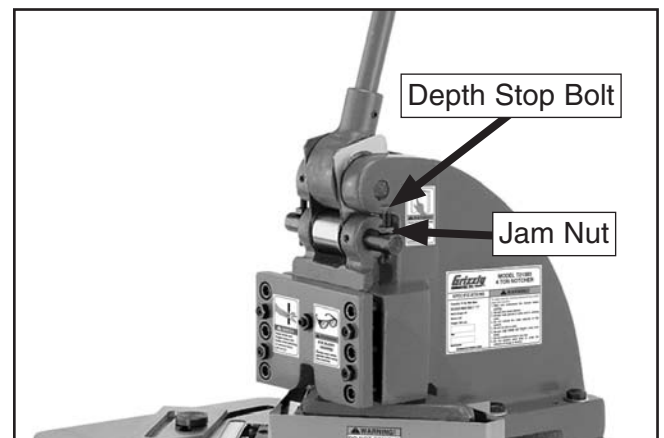

Figure 17. Depth stop adjustment.
1. Loosen the jam nuts on the depth stop bolts (**Figure 17**).